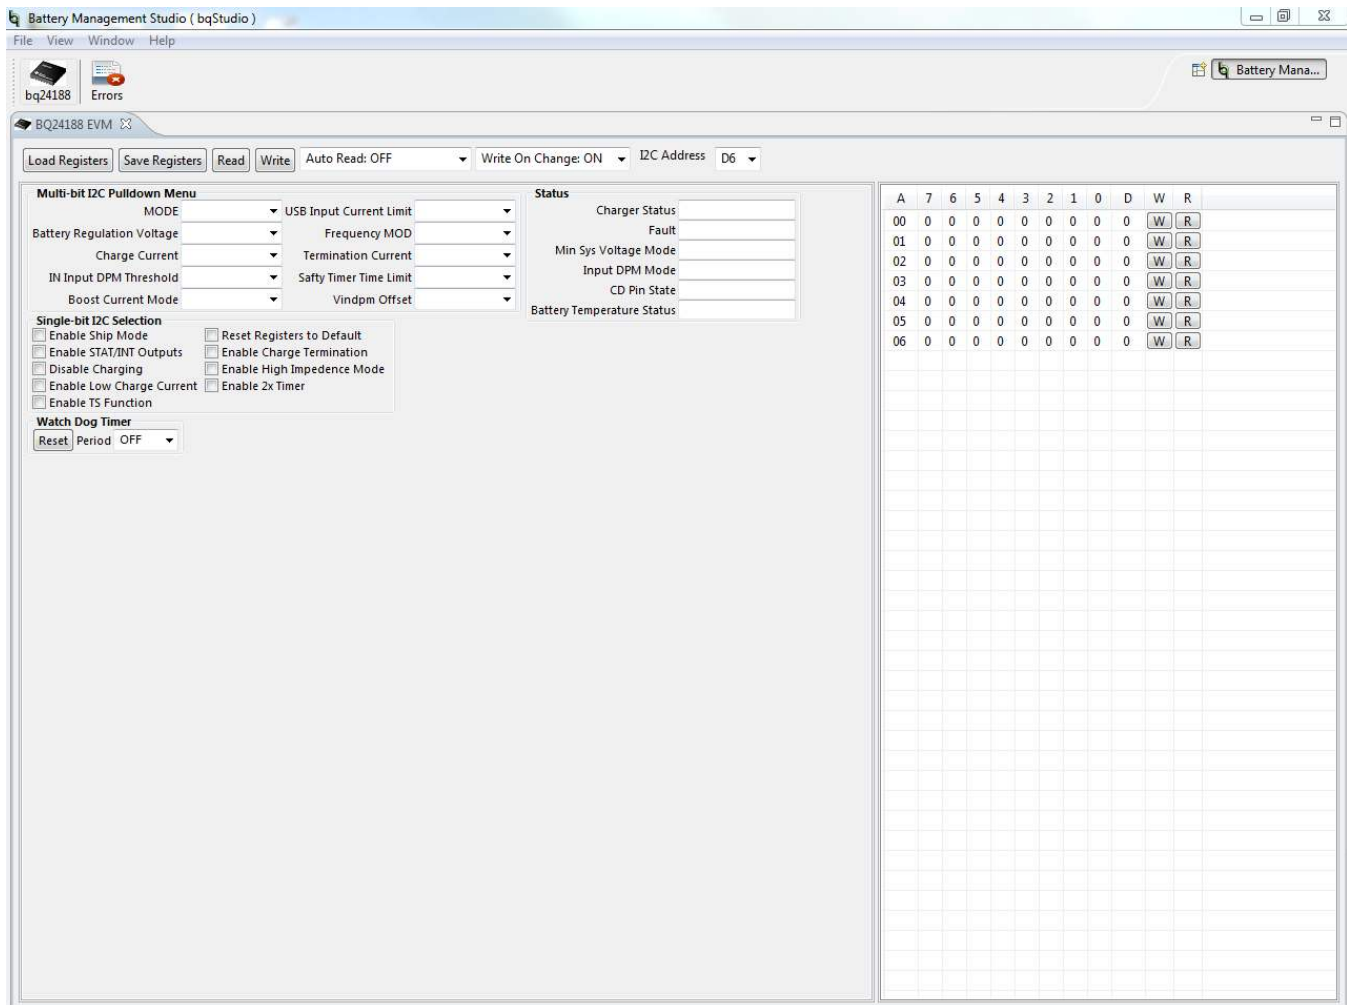

Figure 5. Main Window of bq24188SW Evaluation Software
10. Turn on the computer. Open the bq24188 evaluation software. The main window of the software is shown in Figure 5.